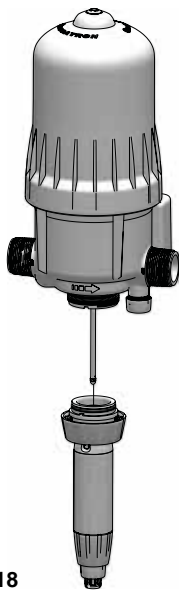

Fig. 18
- Remove the dosing part (**Fig.18**) (§ DISMANTLING/REFITTING THE DOSING PART).